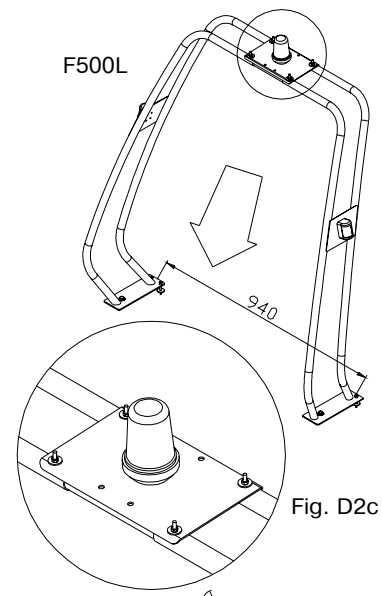

Fig. D2c
- for boats F500 – 940mm (Fig.D2c);